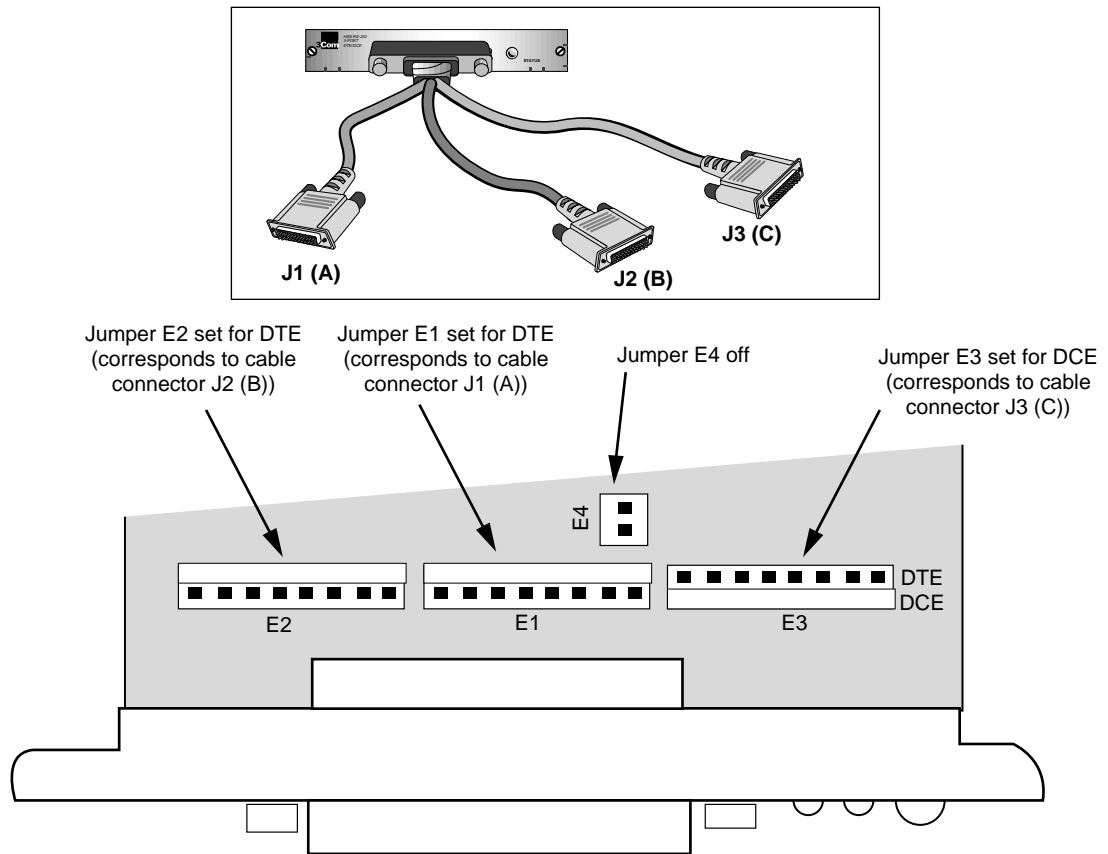

Figure 1-1 Changing the Jumper Settings to Connect to DTE Devices
- 1 Remove the jumper located in the E-4 position (see Figure 1-1).
- 2 For the ports you want to connect to DTE devices, move the jumpers from the DTE row of pins to the DCE row of pins (see Figure 1-1).
CAUTION: *When changing jumper settings on the module and when cabling the module to devices, be aware that when the RS-232 3-Port cable is connected to the module, the positioning of the three hydra cables carrying the port signals are not visually in a direct or expected line with the location of the jumpers on the module to which the signals correspond. (See Figure 1-1.)*
Figure 1-1 shows the jumper in the E3 slot for port J3(C) set to DCE and shows two ports set to DTE.
CAUTION: When changing jumper settings on the module and when cabling the module to devices, be aware that when the RS-232 3-Port cable is connected to the module, the positioning of the three hydra cables carrying the port signals are not visually in a direct or expected line with the location of the jumpers on the module to which the signals correspond. (See Figure 1-1.)